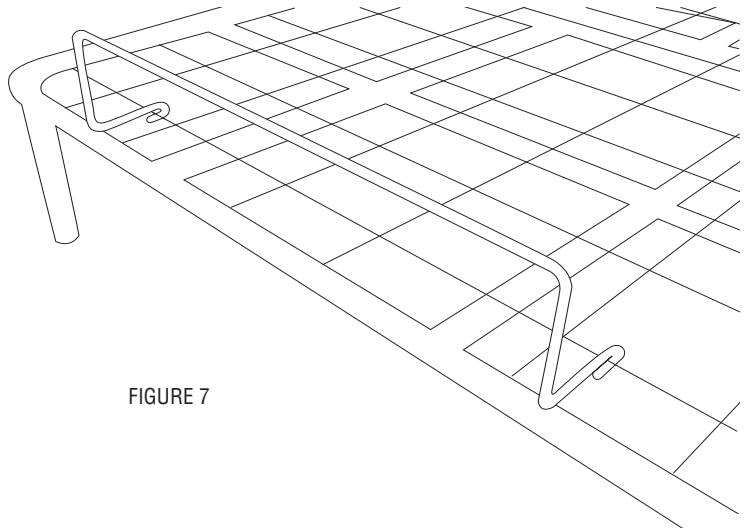

FIGURE 7
**WIRE GRID BASE** - Hook mattress retainer ends over wire grid closest to foot end of base. Make sure mattress retainer is centered (FIGURE 7).